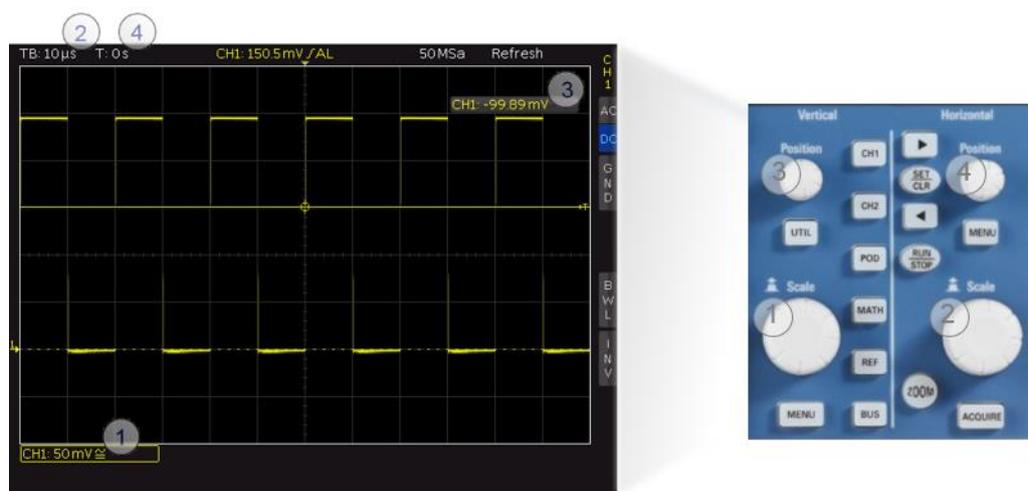

Fig.1-2: Basic settings for the horizontal and vertical systems.
The RTC1000 display is divided into 12 horizontal and 8 vertical units. This allows the user to make a quick visual assessment of the readings and to scale the axes. See Fig.1-2 for an introduction into the functionality for the horizontal and vertical systems.
The scaling for the vertical system is set using the large rotary knob labeled *VOLTS/DIV* (① Fig.1-2, right). The associated vertical scaling is displayed at the left, under the signal for each active channel. For example, 50 mV means that the height of one grid square is equal to 50 mV1. This setting then equals a vertical display over the entire range of  $50 \text{ mV} * 8 = 400 \text{ mV}$ .
The timebase is set in a similar fashion using the *TIME/DIV* rotary knob (② Fig.1-2, right). In the example provided in Fig.1-2,  $10\ \mu\text{s}$  is the length of one grid square. Consequently, the duration of the displayed signal is  $10\ \mu\text{s} * 12 = 120\ \mu\text{s}$ . Unlike the amplitude scaling, this setting applies to all channels. The rotary knobs labeled *POSITION* set the offsets for the vertical and horizontal systems.